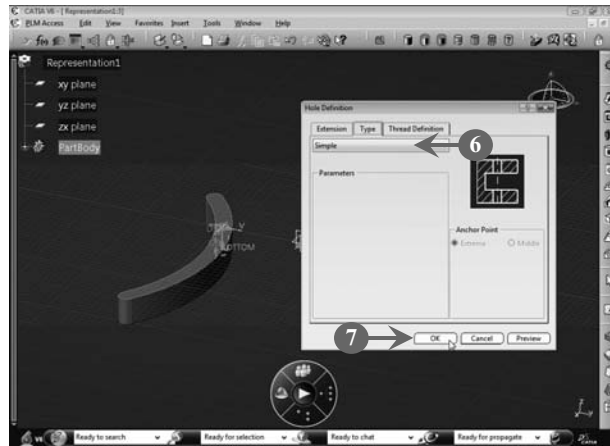

FIGURE 3.29
6. Select the default settings in the **Type** tab that is **Simple**, as a simple hole is being created (**Figure 3.29**).
7. Click the **OK** button, as shown in Figure 3.29: